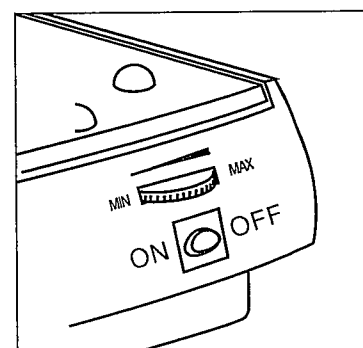

Figure 11
1. Set Variable Steam Control Dial to "MIN" setting (turn Dial completely to left when facing front of Control Center) (Figure 11). The Variable Steam Dial can be set from "MIN" to "MAX."